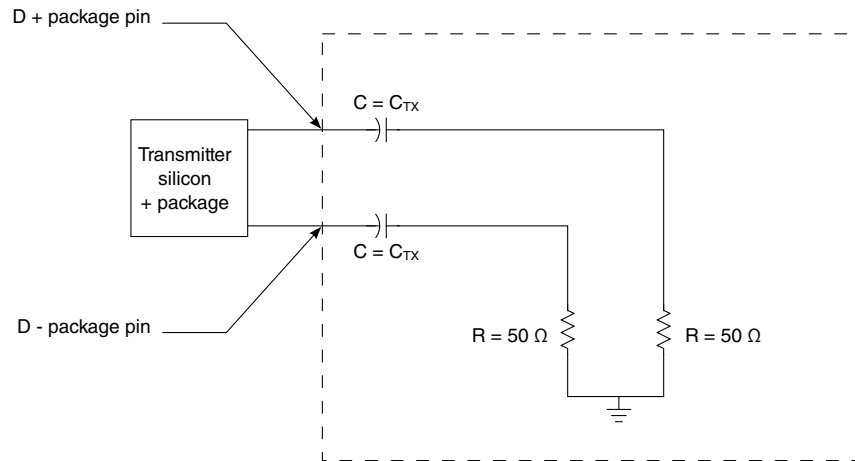

Figure 40. Test/measurement load
1. Specified at the measurement point into a timing and voltage test load as shown in Figure 40 and measured over any 250 consecutive transmitter UIs.
Notes: - Specified at the measurement point and measured over any 250 consecutive UIs. The test load in Figure 40 must be used as the receiver device when taking measurements. If the clocks to the receiver and transmitter are not derived from the same reference clock, the transmitter UI recovered from 3500 consecutive UI must be used as a reference for the eye diagram. - A $T_{RX-EYE} = 0.40$ UI provides for a total sum of 0.60 UI deterministic and random jitter budget for the transmitter and interconnect collected any 250 consecutive UIs. The $T_{RX-EYE-MEDIAN-to-MAX-JITTER}$ specification ensures a jitter distribution in which the median and the maximum deviation from the median is less than half of the total. UI jitter budget collected over any 250 consecutive transmitter UIs. It must be noted that the median is not the same as the mean. The jitter median describes the point in time where the number of jitter points on either side is approximately equal as opposed to the averaged time value. If the clocks to the receiver and transmitter are not derived from the same reference clock, the transmitter UI recovered from 3500 consecutive UI must be used as the reference for the eye diagram. - It is recommended that the recovered transmitter UI is calculated using all edges in the 3500 consecutive UI interval with a fit algorithm using a minimization merit function. Least squares and median deviation fits have worked well with experimental and simulated data. - For recommended operating conditions, see Table 3. - The $T_{RX-EYE-MEDIAN-to-MAX-JITTER}$ for common and separated reference clock architecture. - If spread spectrum clocking is desired, common clock receiver architecture must be used. - The AC specifications do not include Refclk jitter.